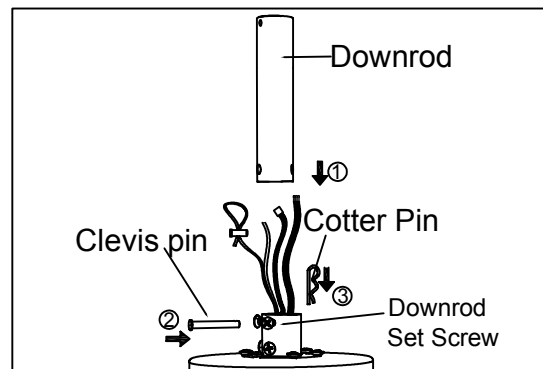

Figure 1.2
- Thread the electric wires and safety cable through the downrod, and insert the downrod into the collar on top of the motor housing. Install the clevis pin by aligning the hole in the downrod with the hole in the top collar, being careful not to damage or cut the fan wires, and secure it with the cotter pin through the hole at the end of the clevis pin. Tighten the two downrod set screws in the top collar. (Figure 1.2)